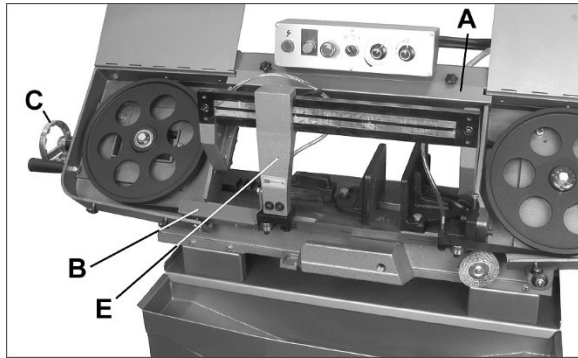

Figure 7-1: installing blade
4. Remove upper gap cover (A, Figure 7-1, two knobs) and lower blade guard (B, one screw).
5. Release blade tension by turning blade tension handle (C) counterclockwise until blade is free.
Blade tension has been preset by the manufacturer; if further adjustment is required, or after installing a new blade, turn handwheel (C, Figure 7-1) clockwise to approximately 25,000 pounds, as indicated on adjacent tension scale.
3. Loosen four knobs and open wheel covers. Remove upper gap cover (A, Figure 7-1) and lower blade guard (B).
12. Install upper gap cover (A, Figure 7-1) and lower blade guard (B). Close blade wheel covers and secure with knobs.
The bracket(s) (E, Figure 7-1) should be set as close to workpiece as possible without causing obstruction. Loosen front knobs (HBS-1018) or rear handle (HBS-916) and slide bracket, then tighten in position.